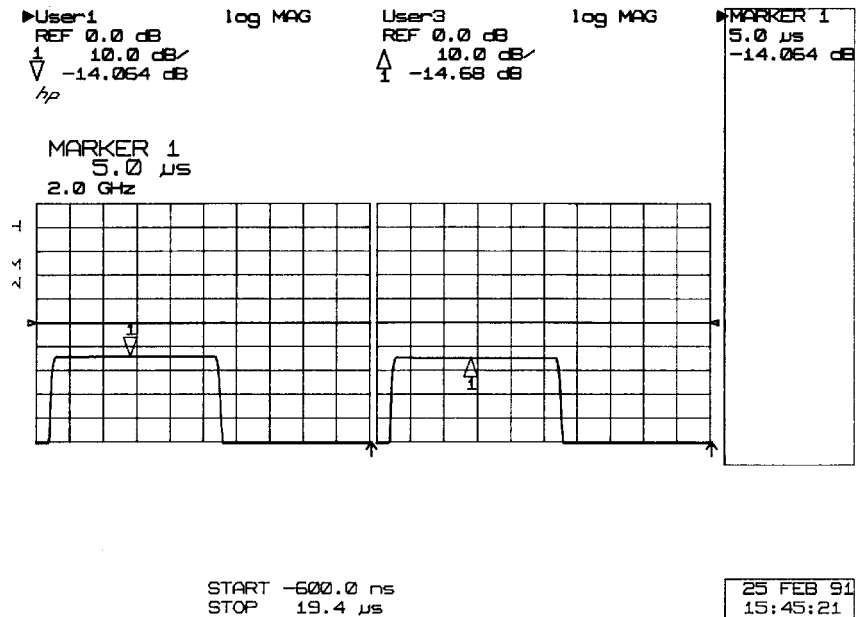

Figure 3-3. Instrument State 1
2. Press **RECALL** **INSTRUMENT STATE 1**. Compare the network analyzer display to Figure 3-3.